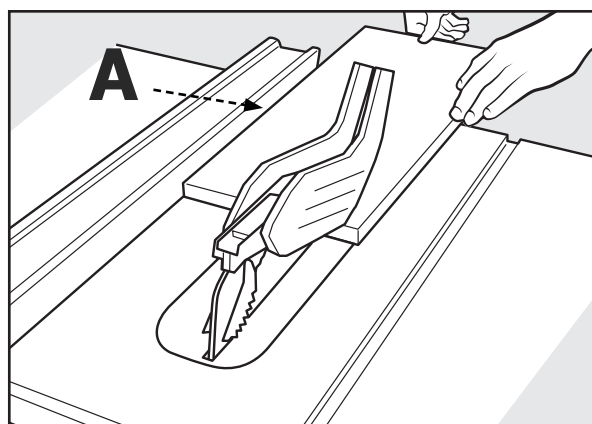

FIGURE 24
8. Hold the workpiece flat on the table and against the fence (A). The workpiece must have a straight edge against the fence and must not be warped, twisted or bowed. See proper hand position in Figure 24.